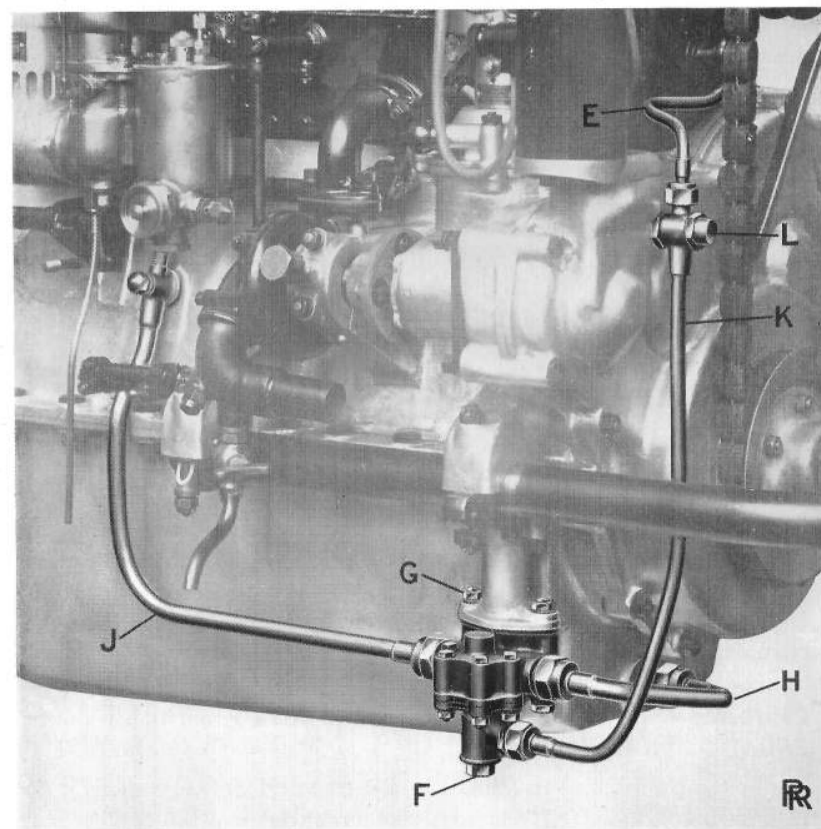
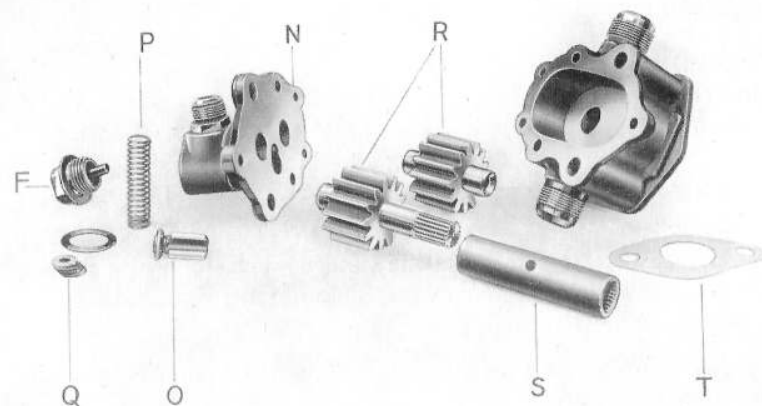

FIG. 13. OIL PUMP.
FIG. 15. OIL PUMP DISMANTLED.
**Oil Pump and Relief Valve.** The oil pump is shown in position on the engine in Fig. 13. Oil is drawn from the filter through pipe **H**, and delivered to the crankcase oil conduit through pipe **J**, the latter also being connected to the instrument board pressure gauge. Incorporated with the pump is a relief valve. The released or overflow oil is taken by a pipe, **K**, to the timing gear wheels, a connection, **L**, on the timing gearcase being provided with a jet which sprays oil on to the gear teeth.
A convenient method of releasing this trapped air is to slacken off the nut which holds the upper end of pipe J (Fig. 13) to the crankcase while the engine is running, care being taken to tighten it again after a few seconds.
**Dismantling Oil Pump and Relief Valve.** The relief valve is easily removed by unscrewing plug F, as shown in Figs. 13 and 15. Care must be taken that the valve O and spring P (Fig. 15) do not drop out when removing the plug in question.
Should it be required to dismantle the oil pump for cleaning or inspection, the three oil unions should be disconnected, and the two nuts **G** (Fig. 13) unscrewed. The pump, complete with its hollow drive shaft, **S** (Fig. 15), can then be removed. By unscrewing the five small bolts securing the casing cover **N**, the latter may be removed, and the gear wheels **R** taken out.